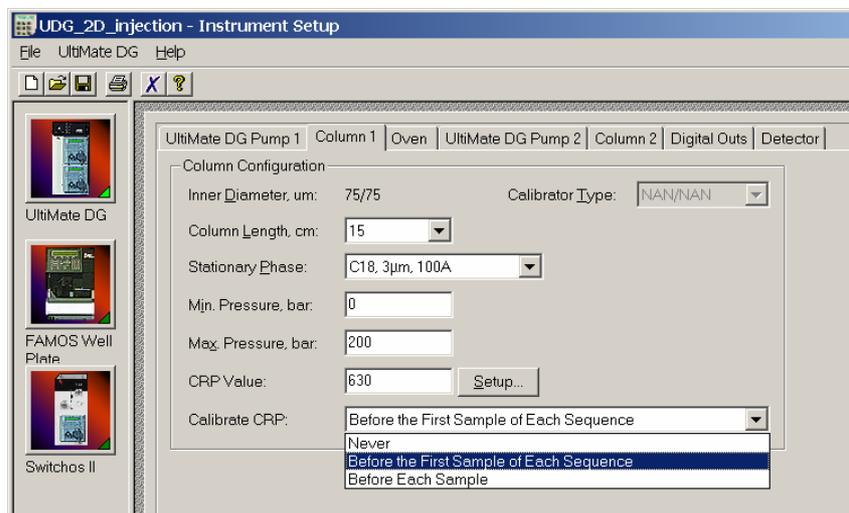

FIGURE 2-33 The Column 1 Parameters Setup Window
- a) Choose the **Column 1** tab in the **Instrument Setup** window to display the column 1 setup window (FIGURE 2-33).
- f) Choose the **Column 2** tab for the column 2 and the flow sensor 2 setup (FIGURE 2-33) and repeat steps a) - f).